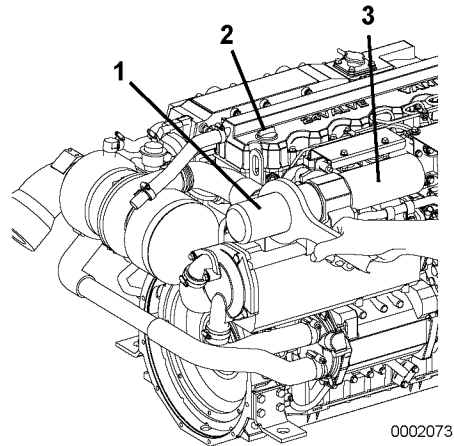

Figure 2
For easier draining, remove the engine oil fill cap (**Figure 2, (2)**) (yellow) at the top of the rocker arm cover. Dispose of used oil properly. NOTICE: *ALWAYS be environmentally responsible.*
3. Remove the engine oil filter (**Figure 2, (1)**) with a filter wrench (turn counterclockwise).